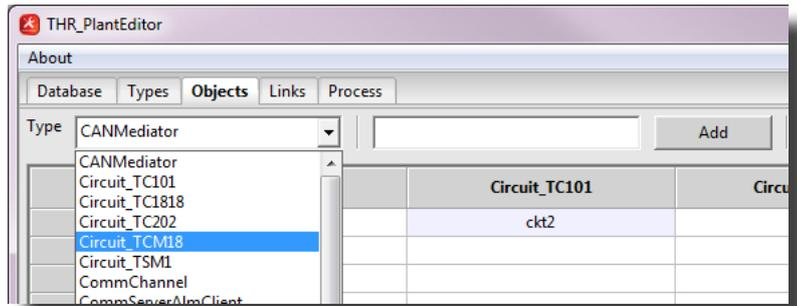

Figure 37: Plant Editor - Select a Type
- a. Select the type from the dropdown list on the Objects page and input the name of the new object in the textbox next to the dropdown list, and click "Add" (Figure 37).